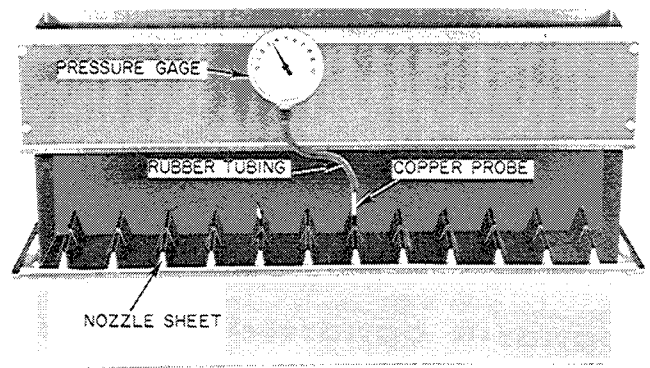

Fig. 6 – Measuring Nozzle Pressure
3. With all air systems operating, measure the unit nozzle pressure as shown in Fig. 6. Select a center nozzle in the second row of the nozzle sheet. Place the copper probe directly in contact with the edges of the opening and take reading from the gage.